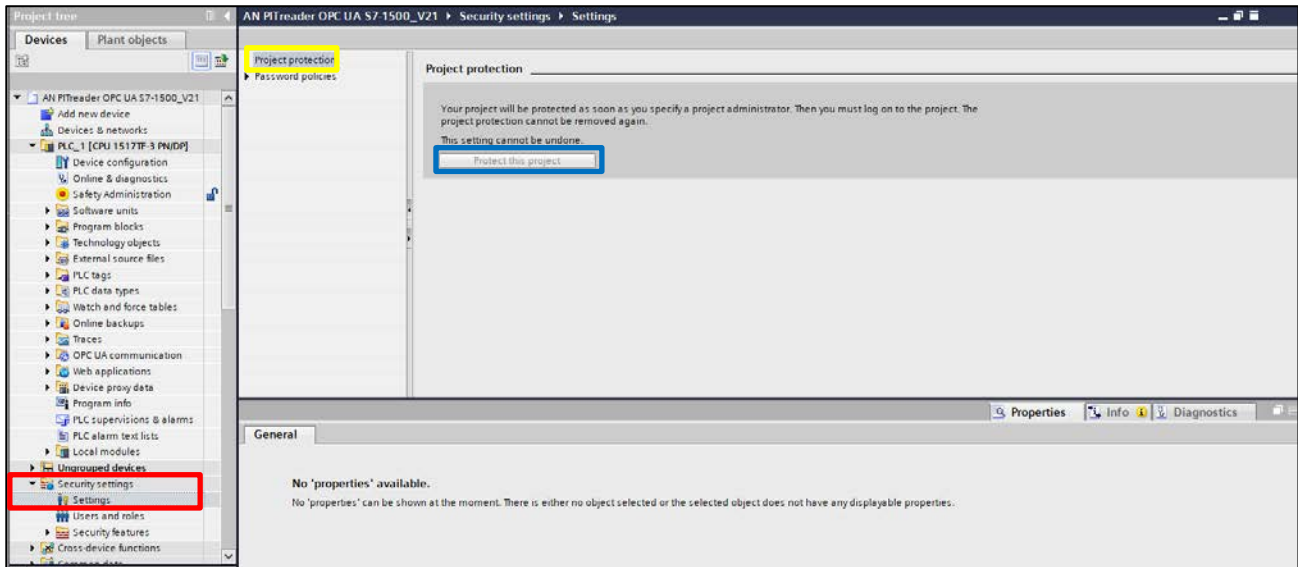

Figure 6: Protect project in the TIA Portal
1. In the project navigation, navigate to *Devices* -> *Security settings* -> *Settings* (Figure 6 red square).
2. In the window that opens, click on "*Project protection*" (Figure 6 yellow square).
3. Click on "*Protect this project*" (Figure 6 blue square).